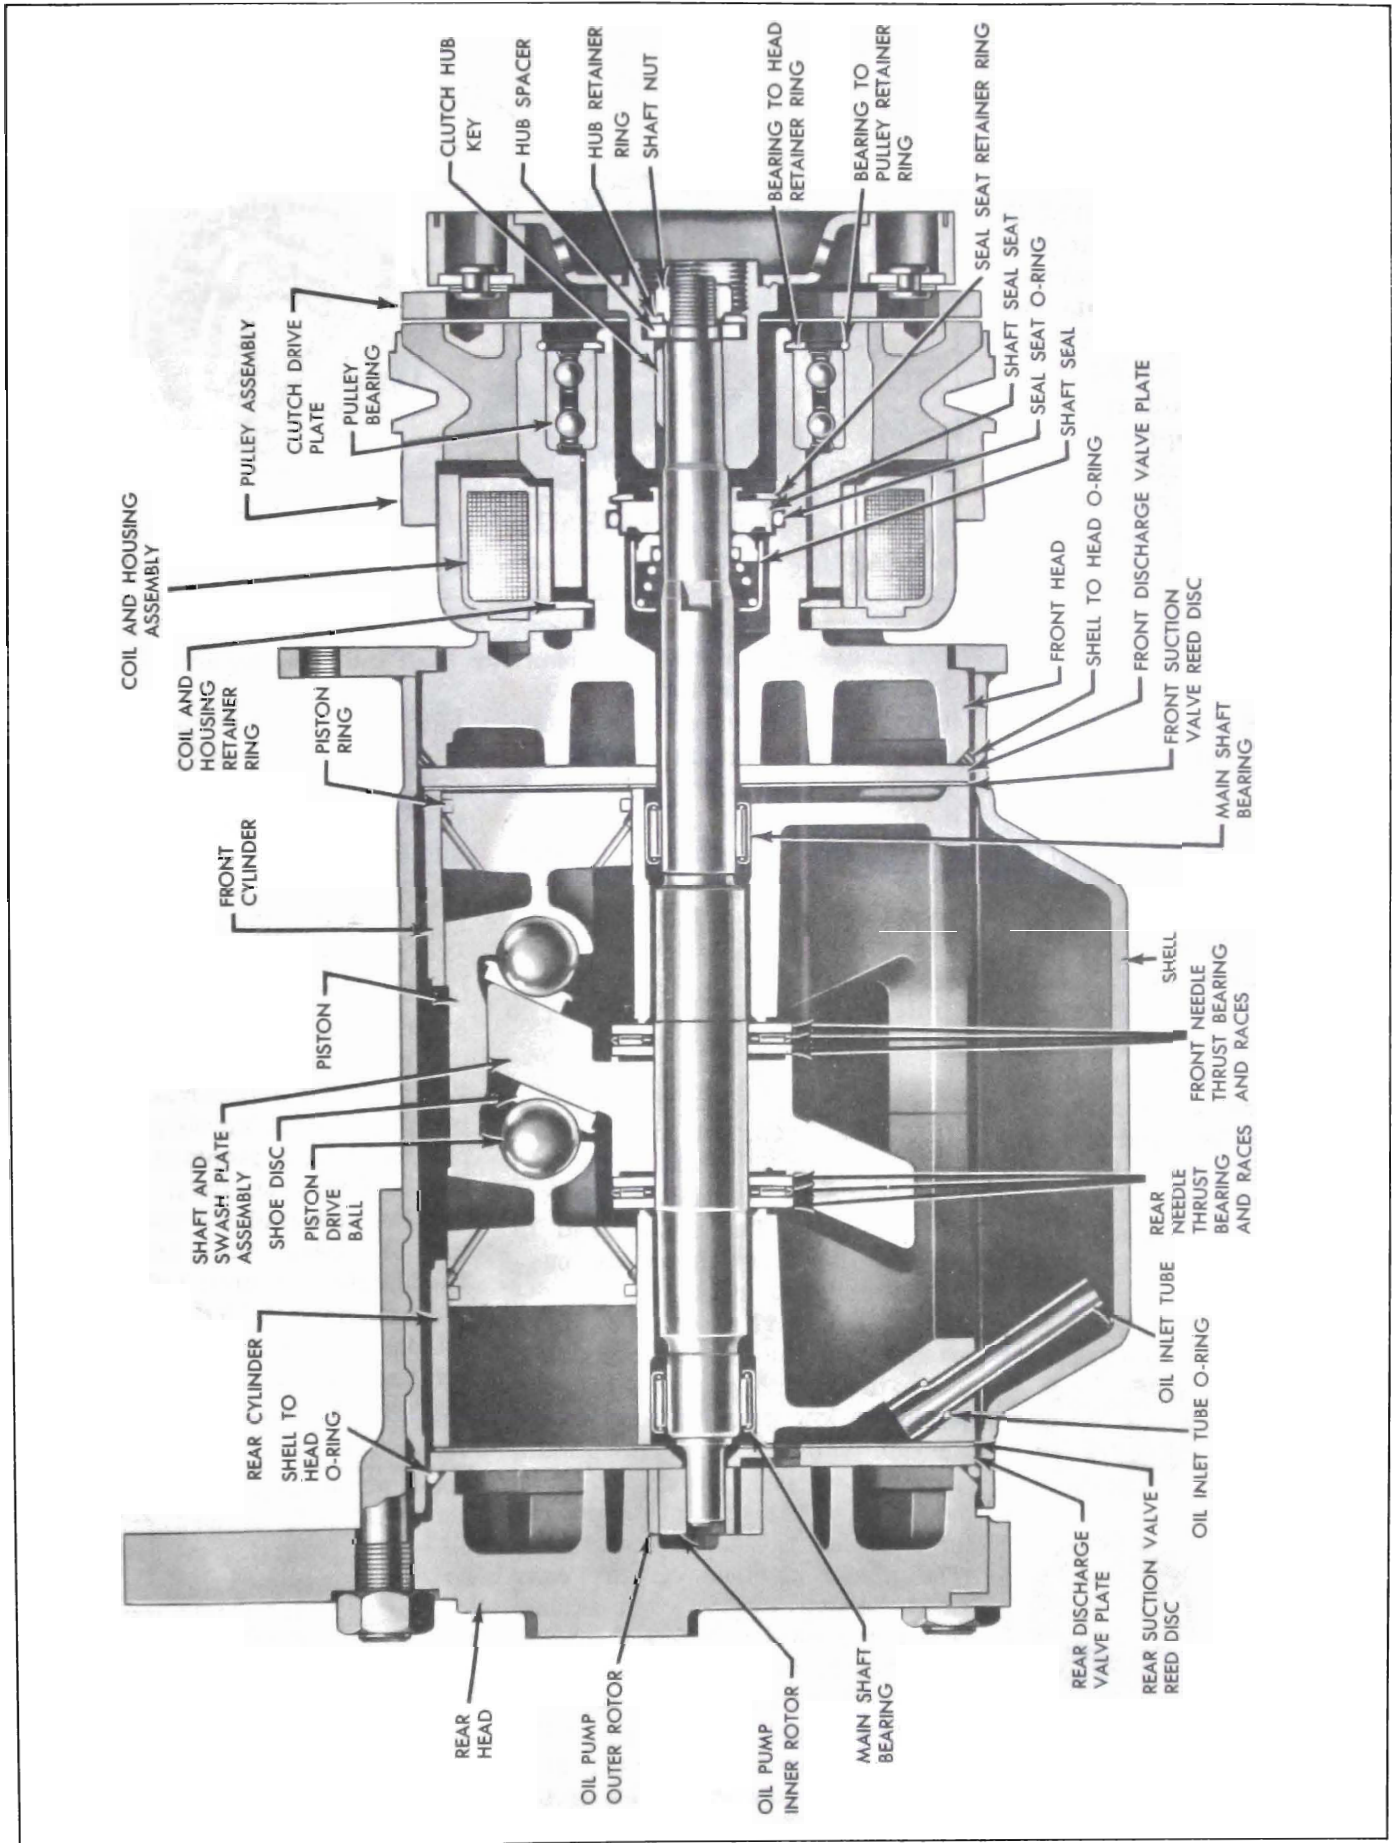

Figure 11-29—Compressor (Sectional View)
The compressor is of basic double action piston design. Three horizontal double acting pistons make up a six cylinder compressor (see Figure 11-29). The pistons operate in 1-1/2 inch bore and have a 1-1/8 inch stroke. A swash plate keyed to the shaft drives the pistons. The shaft is belt driven through a magnetic clutch and pulley arrangement. An oil pump mounted at the rear of the compressor picks up oil from the bottom of the compressor and lubricates the bearings and other internal parts of the compressor. Reed type valves at each end of the compressor open or close to control the flow of incoming and outgoing refrigerant. Two gas tight passages interconnect chambers of the front and rear heads so that there is one common suction port, and one common discharge port.
4. Shaft and Swash Plate Assembly—The shaft and swash plate assembly (see Figure 11-29) consists of an elliptical plate positioned obliquely to the shaft. As the plate rotates on the shaft, the surface of the plate moves to and fro lengthwise relative to the centerline of the shaft. This reciprocating motion is transmitted to the pistons which contact the surface of the swash plate. A woodruff key locks the swash plate onto the shaft. The swash plate and shaft are serviced as an assembly. The shaft is driven by a pulley when the magnetic clutch is energized. A needle thrust bearing and a mainshaft bearing support the shaft horizontally and vertically.